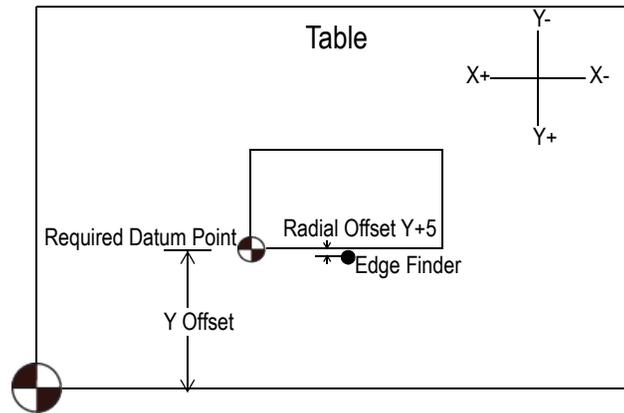

Figure 6-3: Y-Axis Location
3. Using the axis direction pushbuttons position the edge finder near the lower edge of the work piece (Figure 6-3:).
5. Type-in the current programme position from datum edge to spindle centreline e.g. Y+5 (Figure 6-3:).